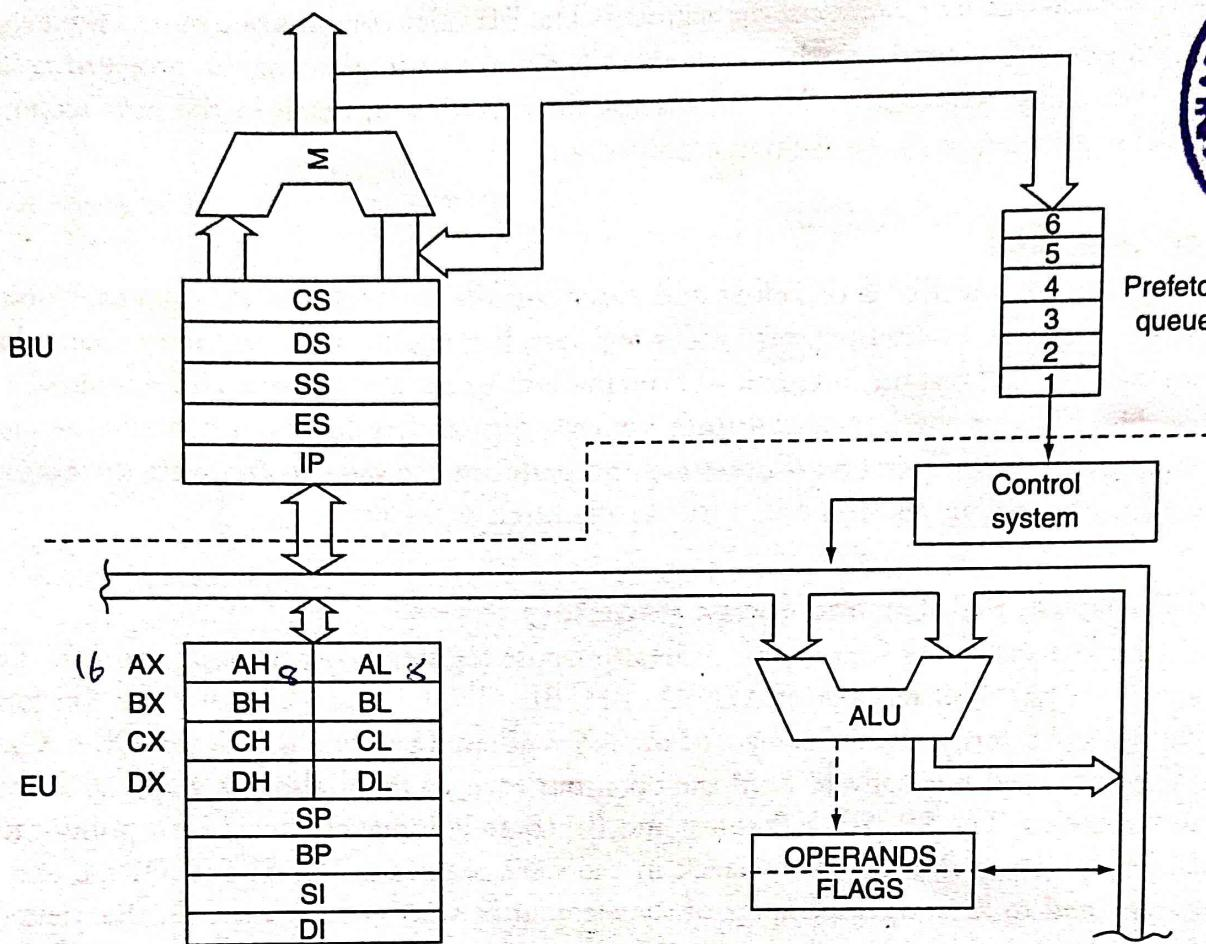

Figure 3 Architecture of Intel 8086 microprocessor.
The internal architecture of the 8086 microprocessor consists of two separate processing units: Bus Interface Unit (BIU) and Execution Unit (EU). The logical block diagram showing the architecture of the 8086 microprocessor is given in Fig. 3. Both of the units have their own dedicated functions and operate in parallel. The 8086 makes the fetching and execution of the instructions independent of each other using BIU and EU to improve the overall performance. Let us understand the functions and components of BIU and EU.